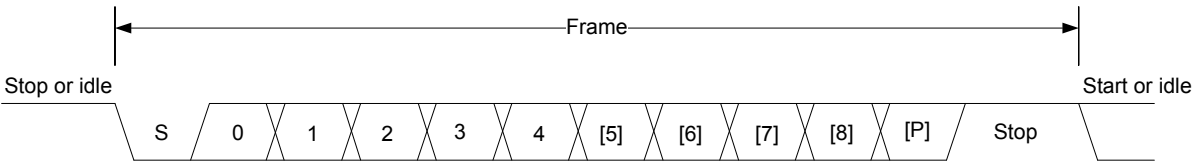

Figure 20.2. USART Asynchronous Frame Format
The frame format used in asynchronous mode consists of a set of data bits in addition to bits for synchronization and optionally a parity bit for error checking. A frame starts with one start-bit (S), where the line is driven low for one bit-period. This signals the start of a frame, and is used for synchronization. Following the start bit are 4 to 16 data bits and an optional parity bit. Finally, a number of stop-bits, where the line is driven high, end the frame. An example frame is shown in Figure 20.2 USART Asynchronous Frame Format on page 557.